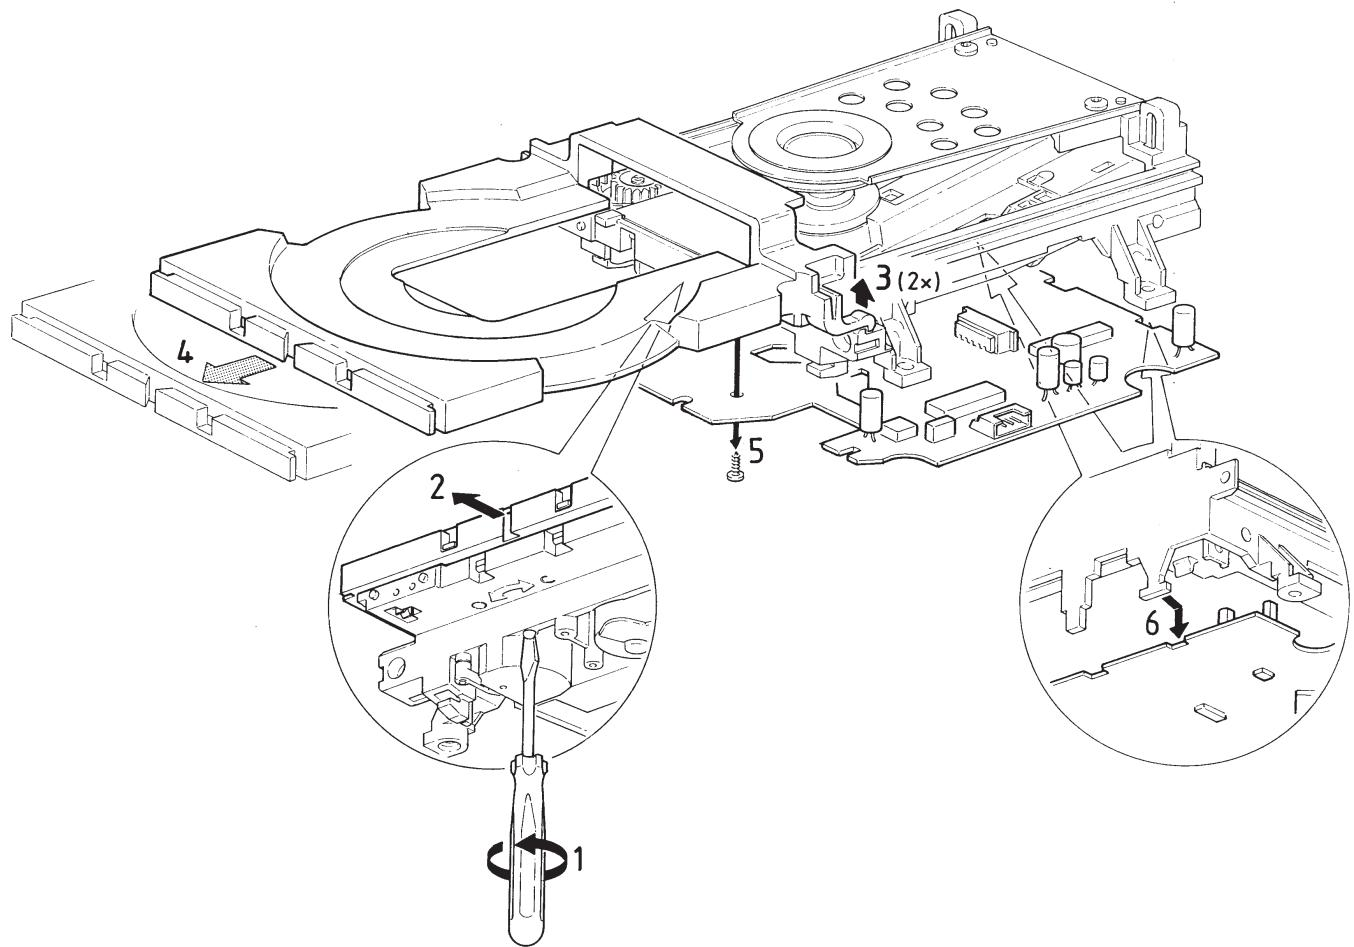

Fig. 1
- Press open/close button to open the tray. If the tray doesn't work, use a small screwdriver as shown in Fig.1 step 1 to move the tray outside. After the first centimetre it is possible to pull the tray out by hand.